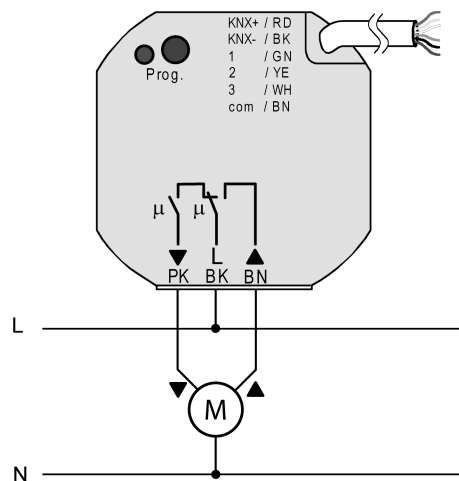

Figure 4: Connection of the mains voltage and the load
- (4) Device box (e.g. electronics box)
- (5) Partition
- (6) Series switch
- (7) Potential-free contact, e. g. window contact
- Connect the mains voltage and the Venetian blind drive using the included screwless terminals (Figure 4).